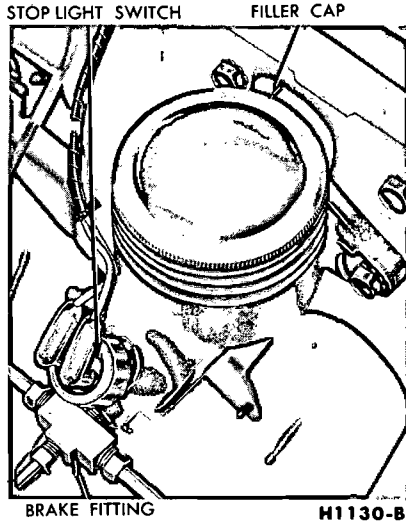

FIG. 13—Brake Master Cylinder Installed
the master cylinder. Disconnect the stop light switch wires from the switch (Fig. 13).
3. Position the bridge and the tail light wire clip (Fig. 13) on the studs. Install, but do not tighten the attaching nuts and lock washers.